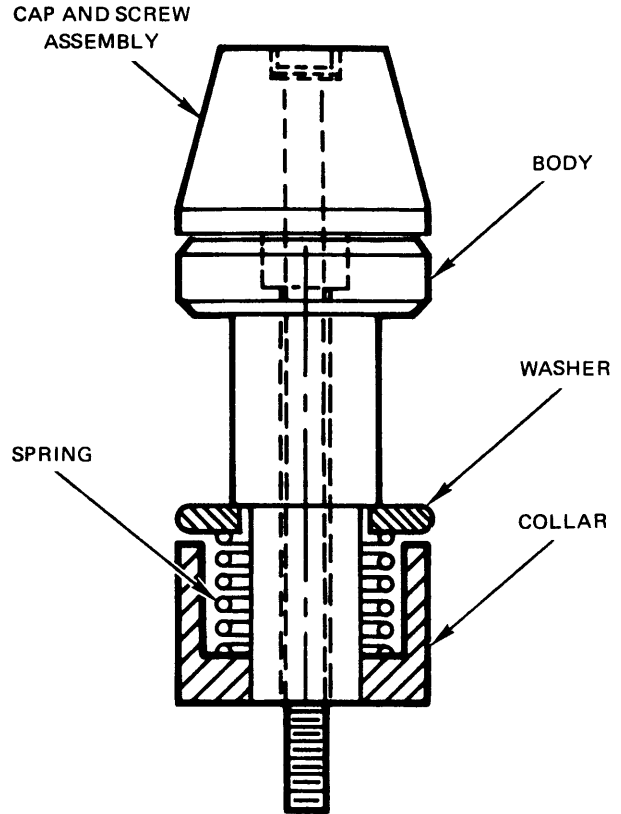

Figure 5-1. Single-Edge Tape Guide
5-12. SINGLE-EDGE TAPE GUIDE. To replace a damaged or worn single-edge tape guide (Figure 5-1) or one of its parts, proceed as follows:
- b. Replace defective part, reassemble parts in accordance with Figure 5-1, and secure to base plate with mounting screw. No adjustment is required.